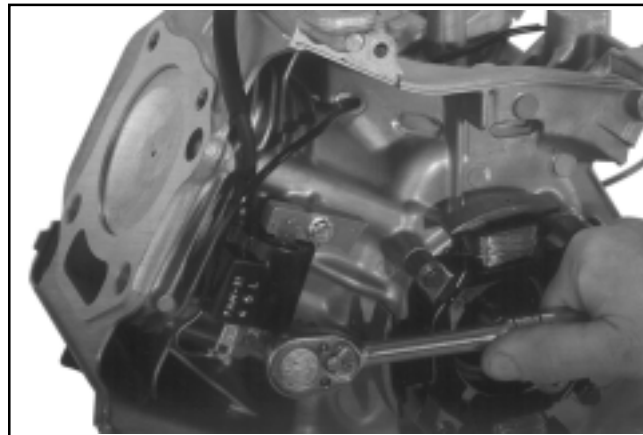

Figure 9-50. Removing the Ignition Module Screws.
1. Remove the two hex. flange screws securing the ignition module to the crankcase. See Figure 9-50.